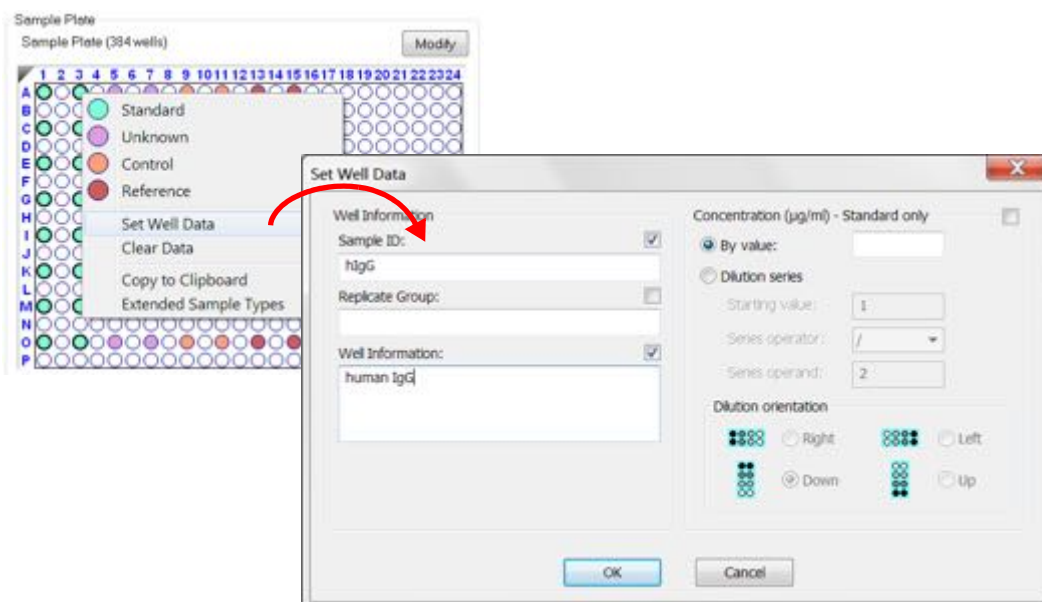

Figure 7-24: Adding Sample Annotations from the Sample Plate Map
2. In the **Set Well Data** dialog box (see Figure 7-24), enter **Sample ID** and/or **Well Information** and click **OK**.